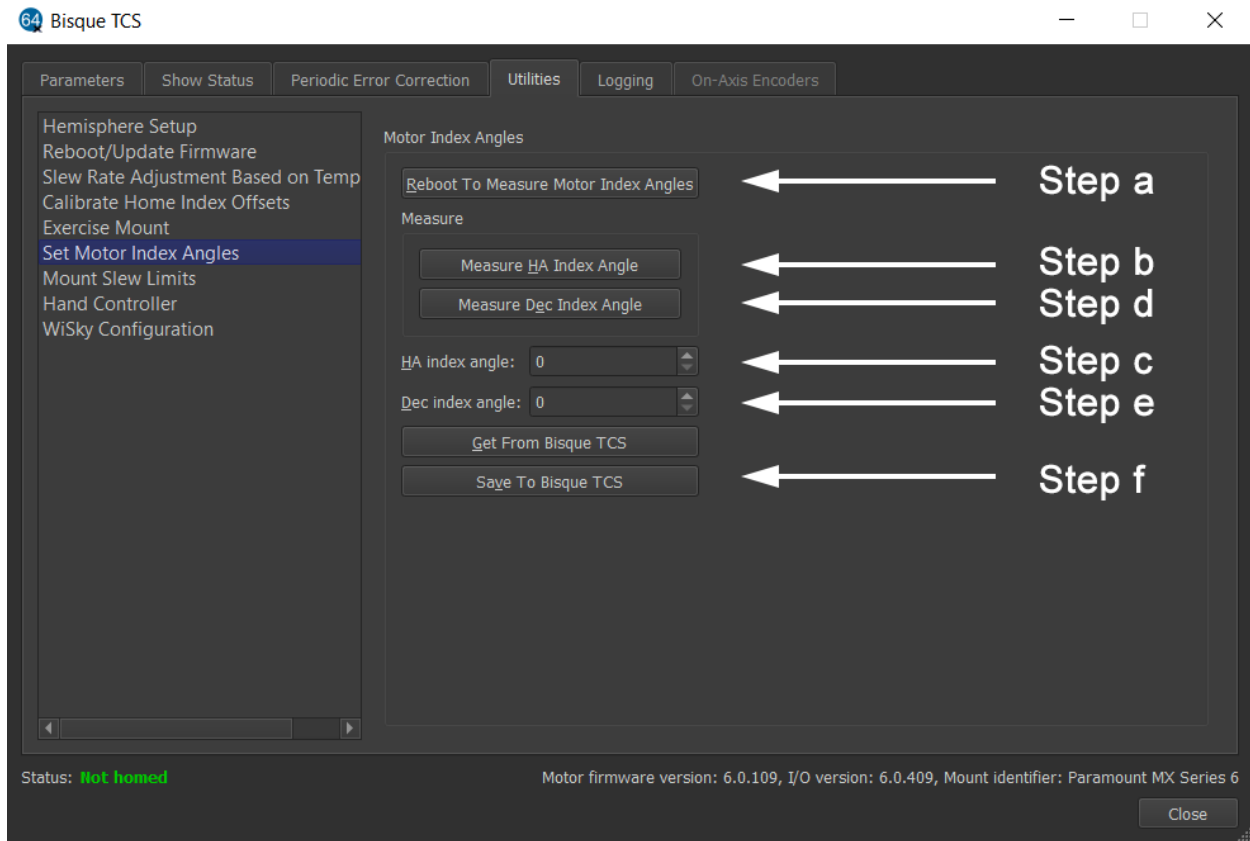

Figure 34: Follow Steps a-f to measure and save the motor index angles for both axes.
8. Click the **Utilities** tab and highlight the **Set Motor Index Angles** option on the left side of the window. The steps below are highlighted in Figure 34.
<p>3. After issuing the Find Home command, the telescope status text shows Not Homed or homing the mount by double-tapping the button on the joystick fails.</p>	<p>Solution 1: Calibrate the MKS 6000 Joystick Port</p> <ol style="list-style-type: none"> 1. Connect to the mount. 2. Choose the Bisque TCS command from the Tools pop-up menu on the Telescope window. 3. Highlight Hand Controller in the list on the left side of the Utilities tab on the Bisque TCS window. 4. Click the Calibrate Joystick button. 5. Important! Choose the Save All Parameters to the Mount command from the Commands pop-up menu on the Parameters tab of the Bisque TCS window. <p>Explanation: The MKS 6000 control system has an internal sensor that detects input from the joystick on the hand paddle.</p> <p>Joystick calibration should be performed at the factory, and normally need not be calibrated again. However, if the joystick sensor was not calibrated at the factory, issuing the Find Home command may fail unexpectedly and the telescope status text on the Telescope window will show Not Homed.</p> <p>Note that the hand paddle does not need to be plugged in to the Electronics Box for successful joystick calibration.</p> <p>Solution 2: Ensure both ends of the homing sensor cable are plugged in.</p> <p>One end of the homing sensor cable plugs into the MKS 6000 PCB (Figure 34), and this cable splits into to two separate cables for right ascension and declination homing sensor. See the Paramount GEM Homing Sensor Cable Troubleshooting and Installation Use document (log in required) for reference on where to locate these sensors: http://tinyurl.com/3nnkneh</p> <p>Double-check that all three ends of the homing sensor cable are in place and that there is no grease in between either of the posts that separate the optical sensors.</p>